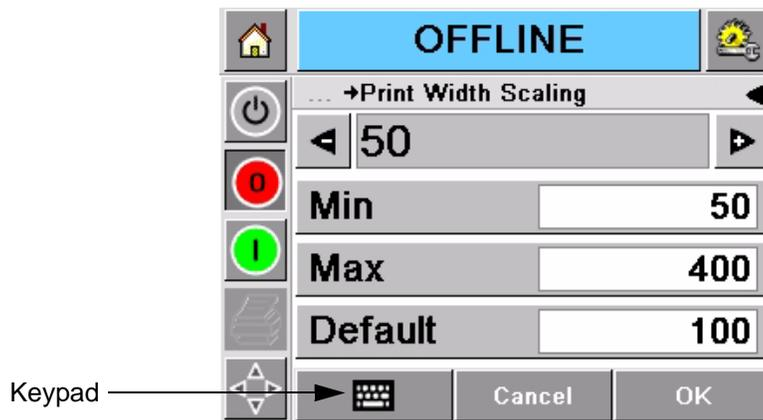

Figure 4-19: Print Width Scaling
- 2 *Print Width Scaling* page appears where you can adjust the Print Width Scaling (Figure 4-19 on page 4-19) using ◀ and ▶.